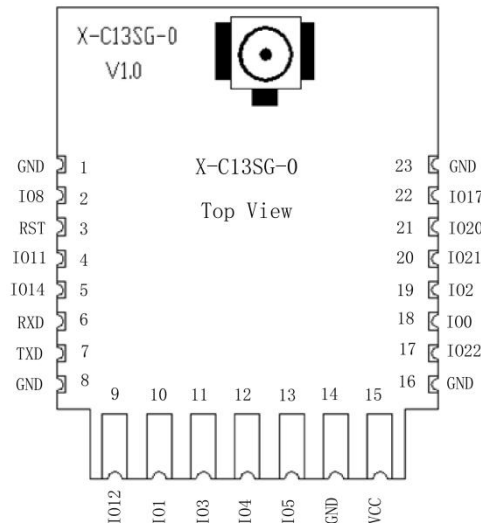

Figure 2. X-C13SG-0 Pin Layout (Top View)
| FIGURE 2. X-C13SG-0 PIN LAYOUT (TOP VIEW).....          | 8  |
- X-C13SG-0 comes with a connector for an external antenna, please refer to Figure 2.